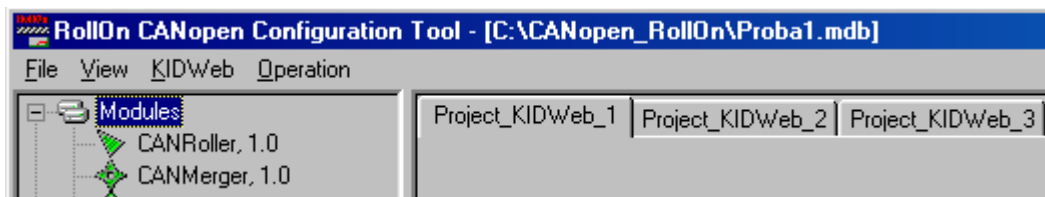

Fig. 4.10
- Click Remove button – the respective Proxy disappears as shown in Fig. 4.10.